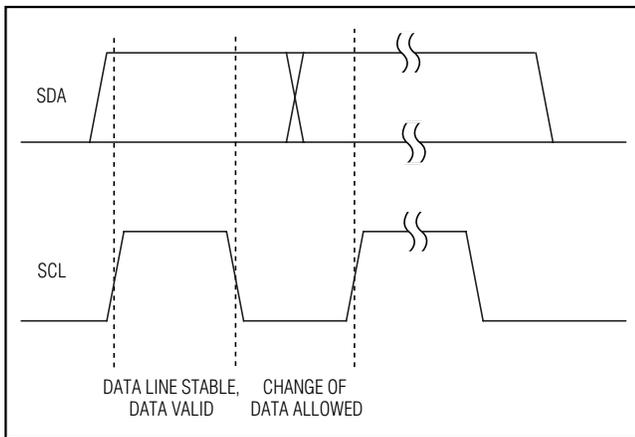
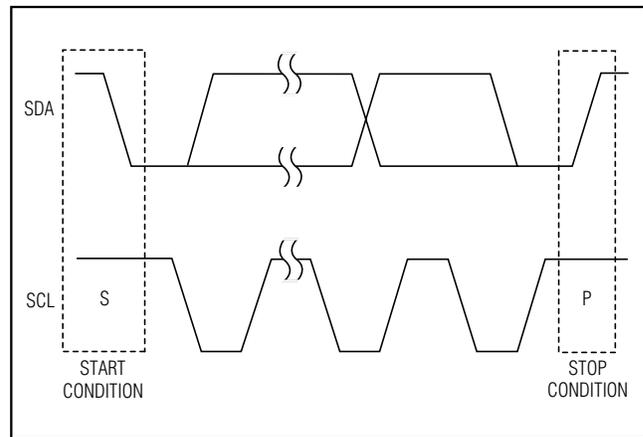
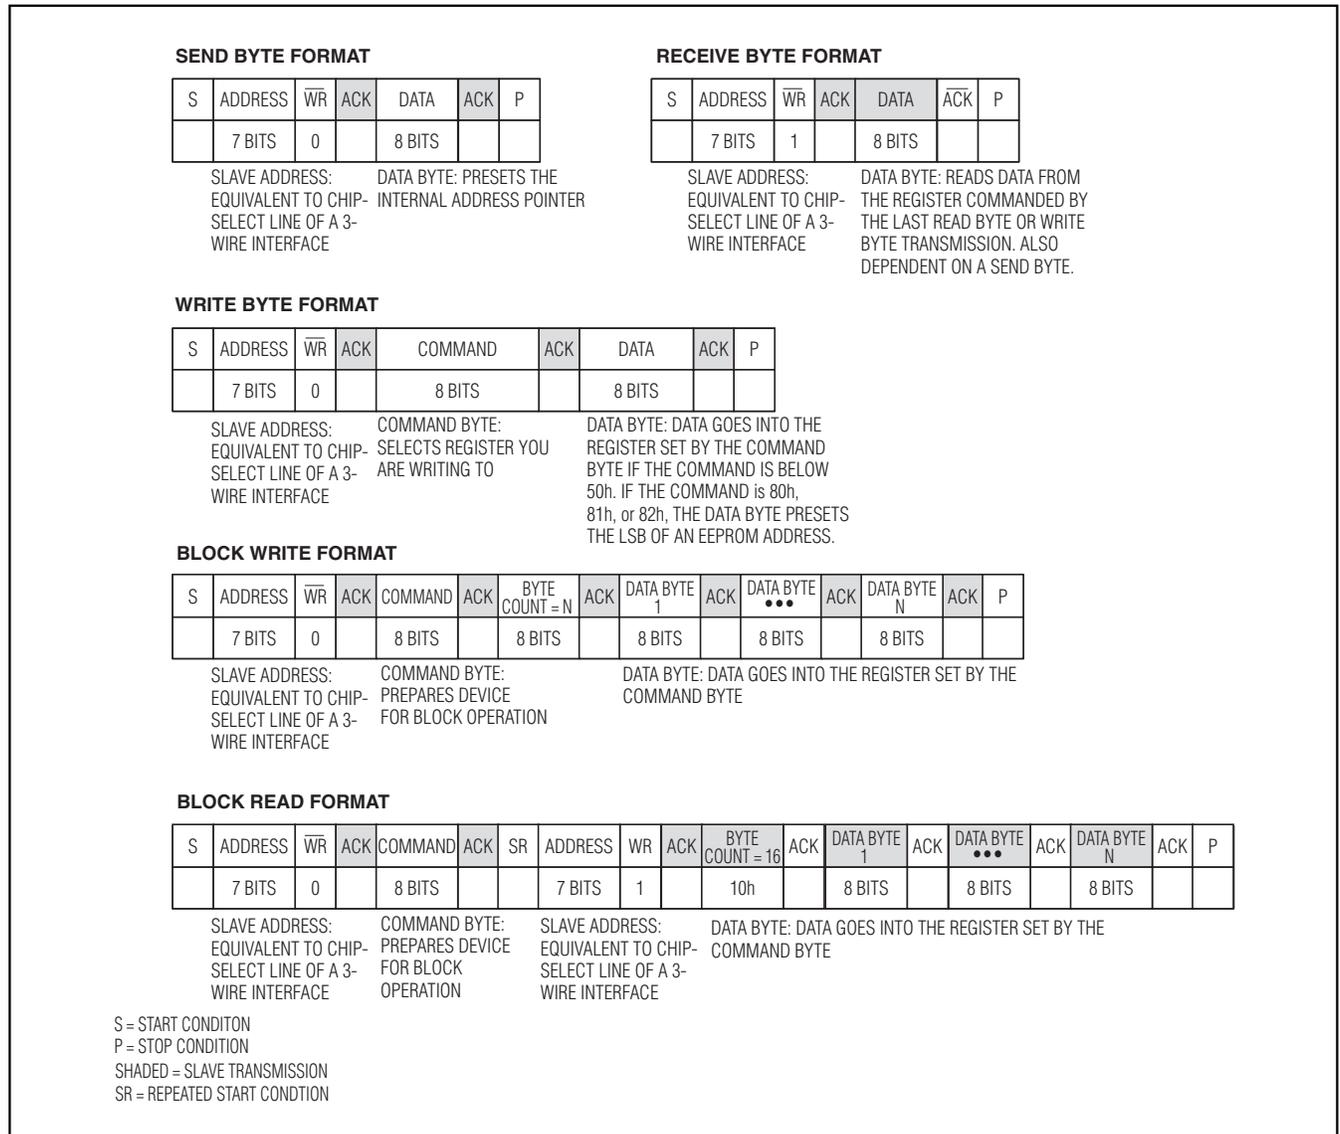

Figure 7. Bit Transfer
Figure 8. Start and Stop Conditions
Figure 11. SMBus/I2C Protocols
Each clock pulse transfers one data bit. The data on SDA must remain stable while SCL is high (see Figure 7), otherwise the MAX6884/MAX6885 register a START or STOP condition (see Figure 8) from the master. SDA and SCL idle high when the bus is not busy.
Both SCL and SDA idle high when the bus is not busy. A master device signals the beginning of a transmission with a START (S) condition (see Figure 8) by transitioning SDA from high to low while SCL is high. The master device issues a STOP (P) condition (see Figure 8) by transitioning SDA from low to high while SCL is high. A STOP condition frees the bus for another transmission. The bus remains active if a REPEATED START condition is generated, such as in the block read protocol (see Figure 11).
A REPEATED START (SR) condition may indicate a change of data direction on the bus. Such a change occurs when a command word is required to initiate a read operation (see Figure 11). SR may also be used when the bus master is writing to several I2C devices and does not want to relinquish control of the bus. The MAX6884/MAX6885 serial interface supports continuous write operations with or without an SR condition separating them. Continuous read operations require SR conditions because of the change in direction of data flow.
The send byte protocol allows the master device to send one byte of data to the slave device (see Figure 11). The send byte presets a register pointer address for a subsequent read or write. The slave sends a NACK instead of an ACK if the master tries to send an address that is not allowed or if the device is writing data to EEPROM or is booting. If the master sends C0h, the data is ACK, because this could be the start of the block write protocol, and the slave expects following data byte. If the master sends a STOP condition, the internal address pointer does not change. If the master sends C1h, this signifies that the block read protocol is expected, and a repeated START condition should follow. The device reboots if the master sends C4h. The send byte procedure follows:
The write byte protocol allows the master device to write a single byte in the register bank or in the EEPROM (see Figure 11). The write byte/word procedure follows:
The block write protocol allows the master device to write a block of data (1 to 16 bytes) to the EEPROM or to the register bank (see Figure 11). The destination address must already be set by the send byte protocol and the command code must be C0h. If the number of bytes to be written causes the address pointer to exceed 2Fh for the configuration register or 9Fh for the configuration EEPROM, the address pointer stops incrementing, overwriting the last memory address with the remaining bytes of data. Only the last data byte sent is stored in 17h (as 2Fh is read only and a write cause no change in the content). If the number of bytes to be written exceeds the address pointer 9Fh for the user EEPROM, the address pointer stops incrementing and continues writing exceeding data to the last address. Only the last data is actually written to 9Fh. The block write procedure follows:
The read byte protocol allows the master device to read the register or an EEPROM location (user or configuration) content of the MAX6884/MAX6885 (see Figure 11). The read byte procedure follows:
The block read protocol allows the master device to read a block of 16 bytes from the EEPROM or register bank (see Figure 11). Read fewer than 16 bytes of data by issuing an early STOP condition from the master, or by generating a NACK with the master. Previous actions through the serial interface predetermine the first source address. It is suggested to use a send byte protocol, before the block read, to set the initial read address. The block read protocol is initiated with a command code of C1h. The block read procedure follows: